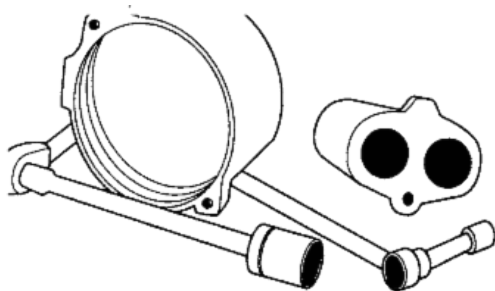

Figure 18: Remove Nozzle
6. The nozzle on 1/2 HP models can be removed from pump case with any standard 1-1/4" socket wrench with an extension (Figure 18). On 3/4 and 1 HP models the nozzle is part of the pump body. When replacing nozzle and venturi, be sure they are tight against the shoulder. Use care to not cross thread. If nozzle is not fully engaged in case, flow will be blocked by venturi entrance.